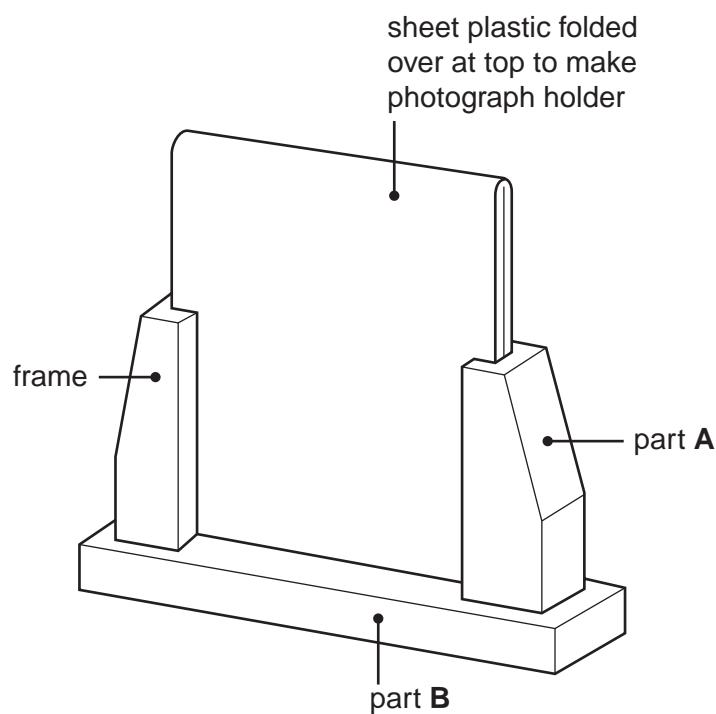

Fig. 2
- 2 Fig. 2 shows a photograph stand which is to be made in a school workshop.